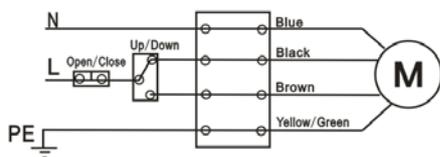

Fig.4
**VI. Electrical scheme: Fig.4**